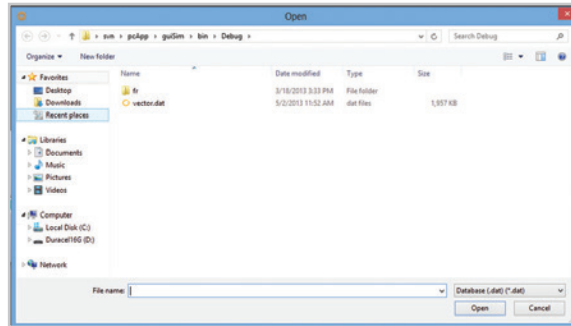

Figure 11-8: Restore Database Open Window
- An Open File Window will appear. Find the database file and press the Open button. See Figure 11-8.